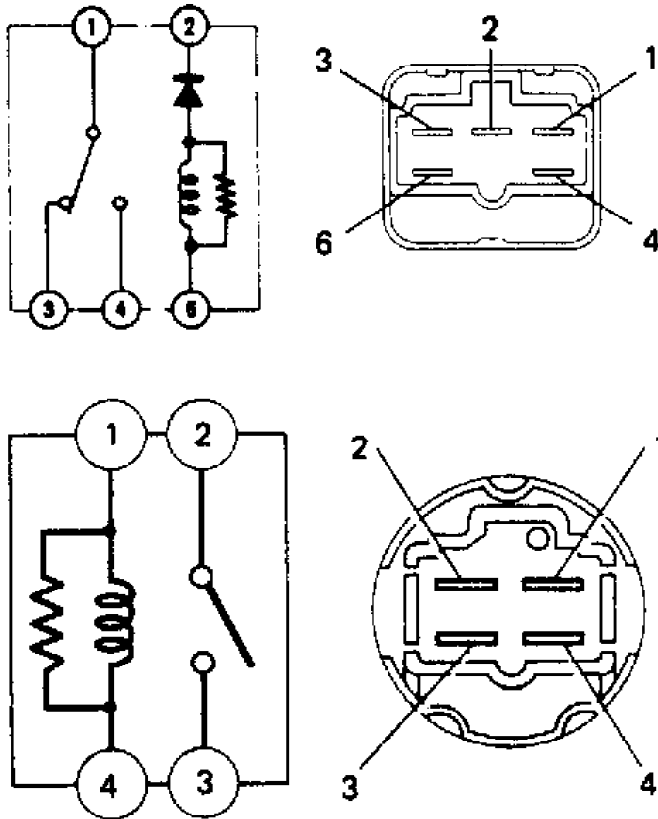

Fig. 5: Condenser Fan Relay Connector Identification
2) Check for continuity between relay terminals No. 2 and 6, and between terminals No. 1 and 3. No continuity should exist between terminals No. 1 and 4. See Fig. 5. If continuity is not as specified, replace relay.
2) If continuity is okay, apply battery voltage across terminals No. 1 and 4. See Fig. 5. With voltage across relay, continuity should exist between terminals No. 2 and 3. If relay operation is not as specified, replace relay.